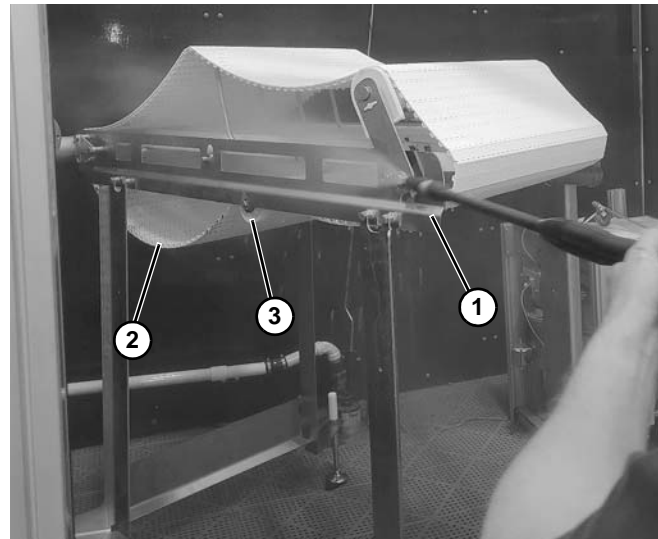

Figure 8
- d. Around the outside of conveyor frame (**Figure 8, item 1**), the outside of the conveyor belt (**Figure 8, item 2**), and belt returns (**Figure 8, item 3**).